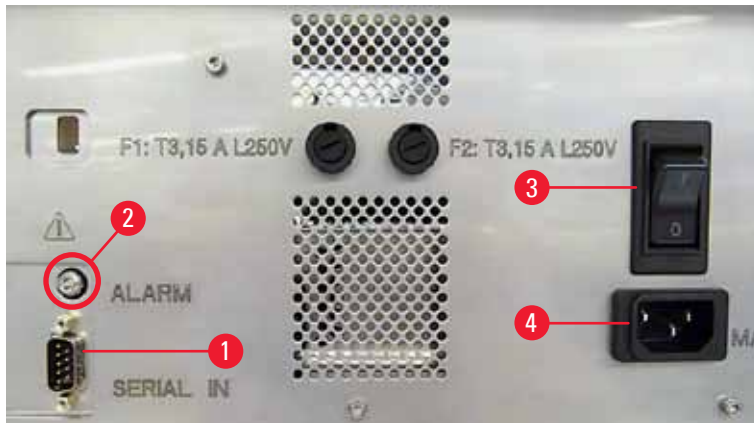

Fig. 27
- ① The electrical connections are located at the back panel of the instrument (→ "Fig. 27").